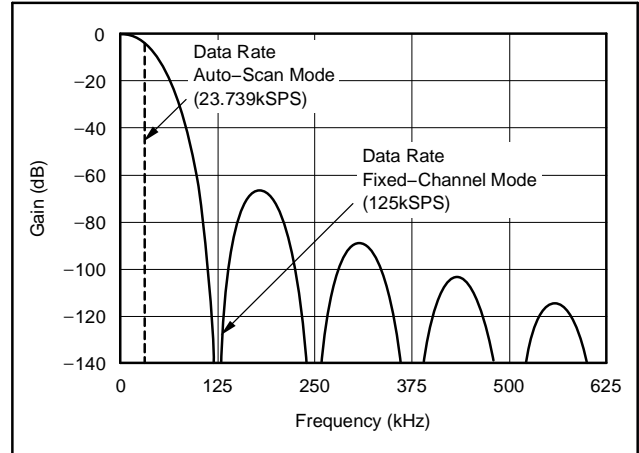
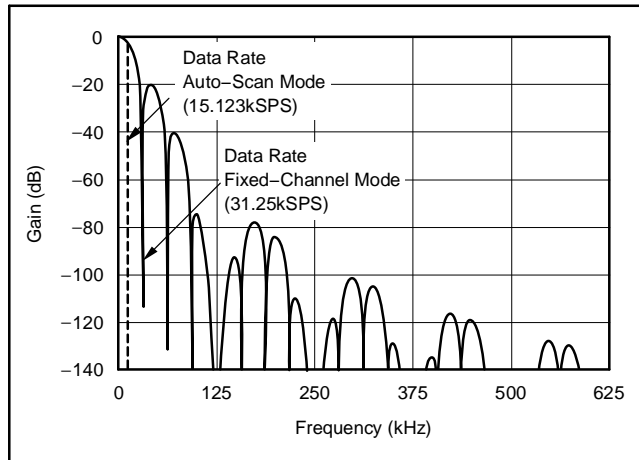
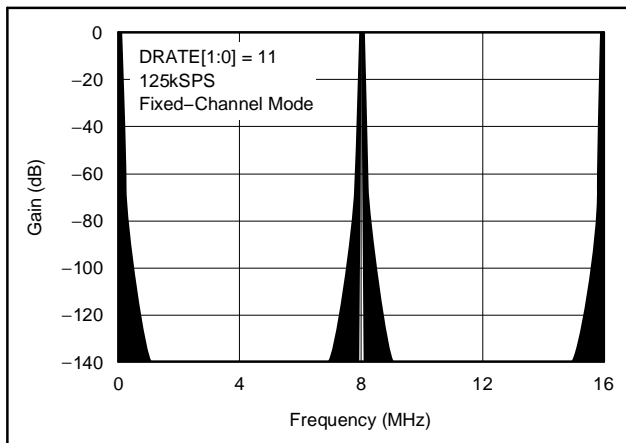

Figure 42. Frequency Response, DRATE[1:0] = 11
Figure 43. Frequency Response, DRATE[1:0] = 10
Figure 44. Frequency Response Out to 16MHz
The low-pass filter has notches (or zeros) at the data output rate and multiples thereof. The sinc5 part of the filter produces wide notches at  $f_{CLK}/128$  and multiples thereof. At these frequencies, the filter has zero gain. Figure 42 shows the response with no post averaging. Note that in Auto-Scan mode, the data rate is reduced while retaining the same frequency response as in Fixed-Channel mode.
Figure 43 shows the response with averaging set to 4 (DRATE[1:0] = 10). 4-reading, post-averaging produces three equally-spaced notches between each main notch of the sinc5 filter. The frequency response of DRATE[1:0] = 01 and 00 follows a similar pattern, but with 15 and 63 equally-spaced notches between the main sinc5 notches, respectively.
(2) Num\_Ave is the number of averages performed by the digital filter second stage.
(3) In Auto-Scan mode, the data rate listed is for a single channel; the effective data rate for multiple channels (on a per-channel basis) is the value shown in Figure 42 and Figure 43 divided by the number of active channels in a scan loop.
The digital filter low-pass characteristic repeats at multiples of the modulator rate of  $f_{CLK}/2$ . Figure 44 shows the response plotted out to 16MHz at the data rate of 125kSPS (Fixed-Channel mode). Notice how the responses near DC, 8MHz, and 16MHz are the same. The digital filter will attenuate high-frequency noise on the ADS1258 inputs up to the frequency where the response repeats. However, noise or frequency components present on the analog input where the response repeats will alias into the passband. For most applications, an anti-alias filter is recommended to remove the noise. A simple first-order input filter with a pole at 200kHz provides –34dB rejection at the first image frequency. Referring to Figure 42 and Figure 43, frequencies present on the analog input above the Nyquist rate (sample rate/2) are first attenuated by the digital filter and then will alias into the passband.